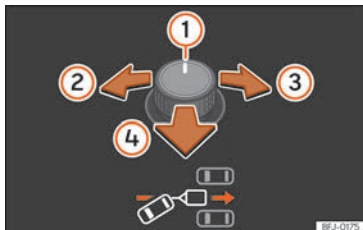
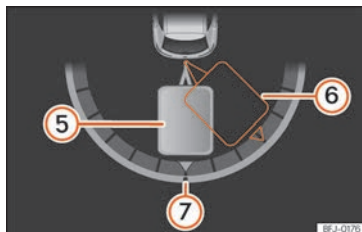

Fig. 195 Rotary exterior mirror controls.: adjust the trailer angle.
Fig. 196 Instrument panel display: engage reverse gear
Key of the **Fig. 195**, **»» Fig. 196**:
• Tilt the rotary control until the desired direction is reached **»» Fig. 195**. A representation of the tow vehicle and trailer set is shown on the instrument cluster screen for guidance purposes **»» Fig. 196**.